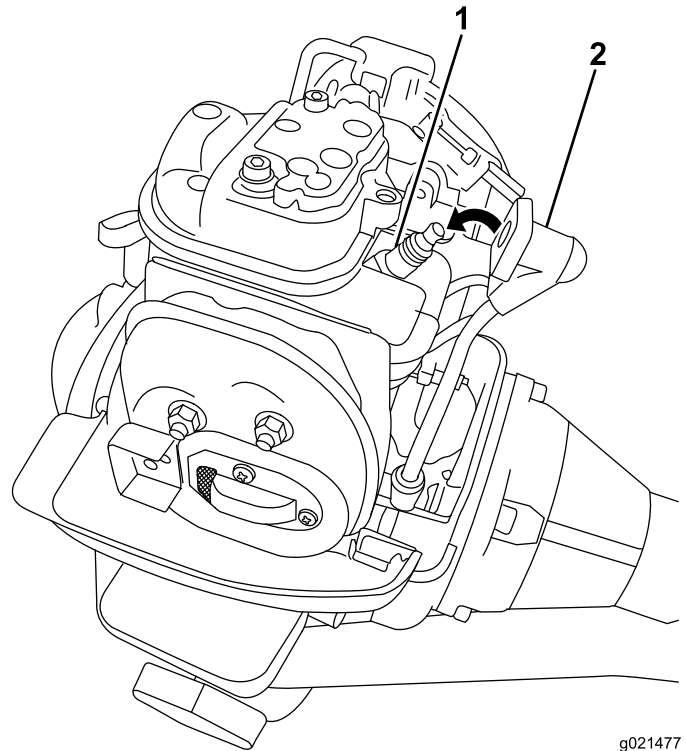

Figure 24
2. Pull the spark-plug wire off the terminal of the spark plug (Figure 24).